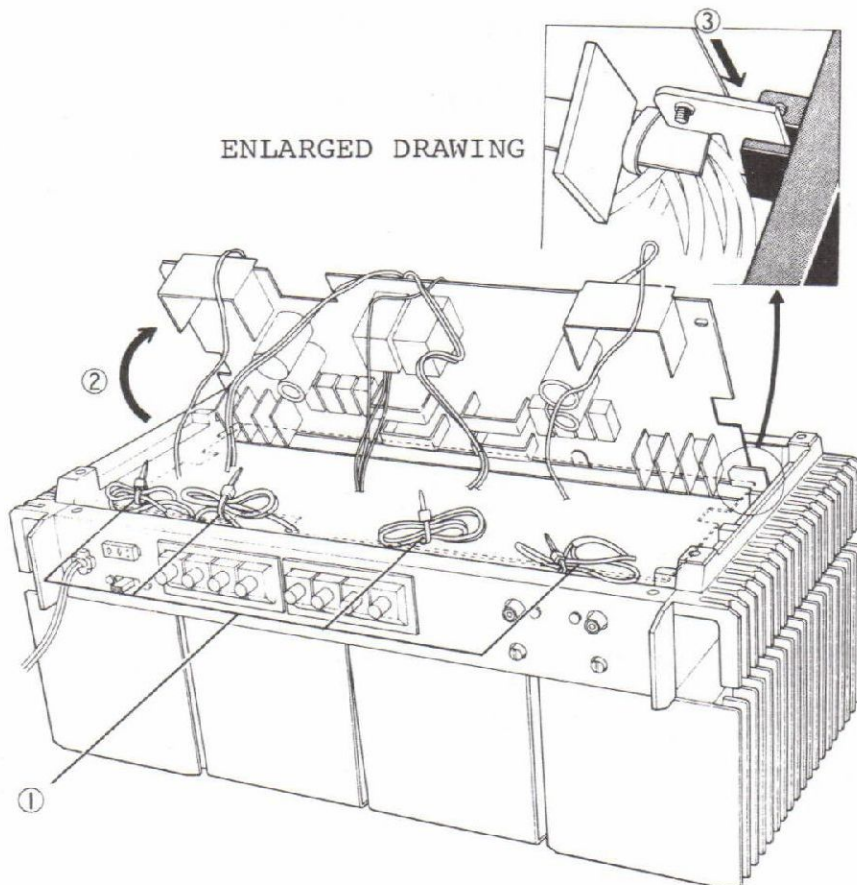

Fig.2
[Cutting position: Fig.2 ①]
- 4) Elevate PCB in direction shown by ② in Fig.2.
- 5) Finally, insert PCB into a groove of the radiator shown by ③ in Fig.2.